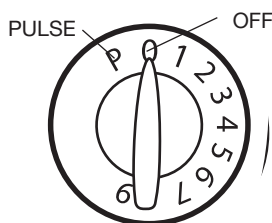

Figure 14
1. For short bursts of power, use the PULSE setting repeatedly. Turn the Speed Control Dial from (O) OFF to (P) PULSE.
2. When pulsing is completed, turn the Speed Control Dial to (O) OFF, as shown in Figure 14, to stop the Kitchen Machine. Unplug the unit.